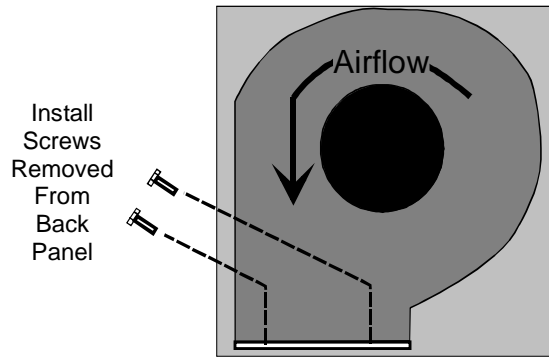

Figure 6
4. Rotate the blower assembly 90° clockwise, setting the blower assembly outlet on the bottom of the unit and secure with two screws removed in step 2 (Figure 6).